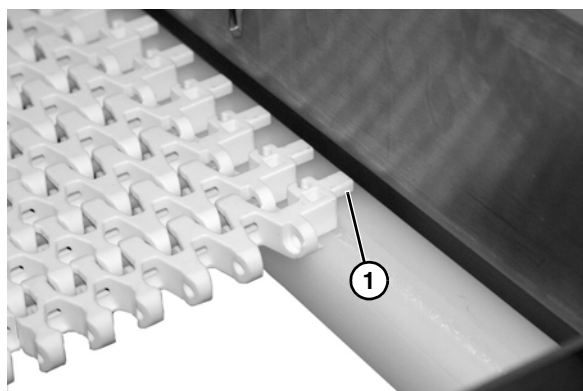

Figure 20
5. When feeding belt through straight section, be sure belt tabs ride on top lip of belt return (Figure 20, item 1).